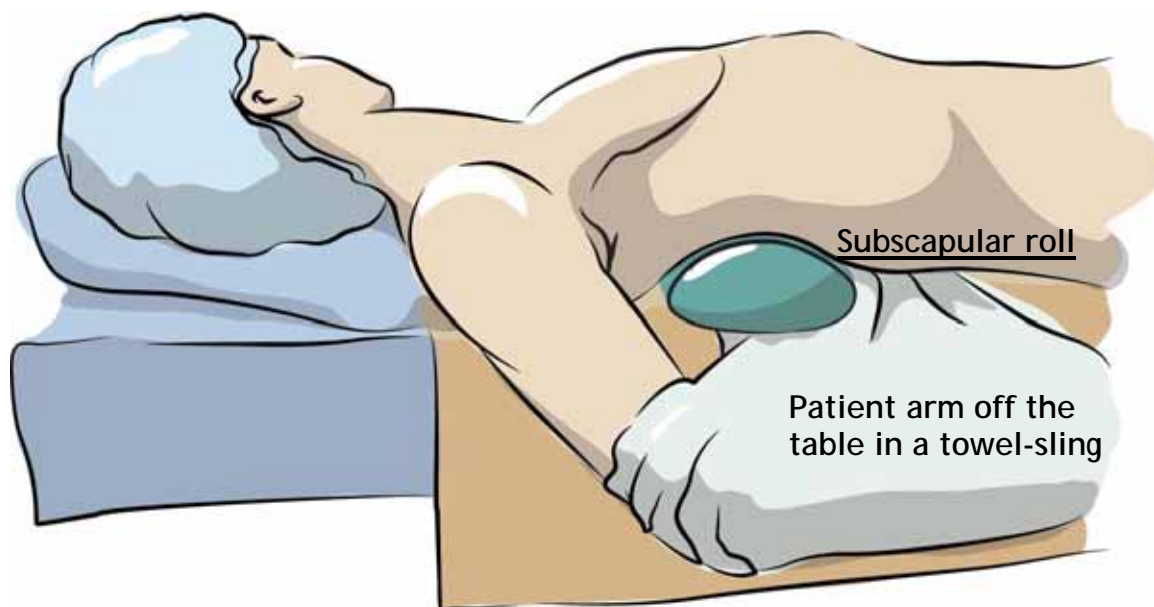

Figure 4: Subscapular roll and arm positioning
- Place roll or a 6-8" gel pad [size similar to a 1000ml IV soft bag] under the right mid-thorax (caudal of scapula) in the transversal axis to lift thorax and drop shoulder (this helps spreading the intercostals spaces) [Figure 4]